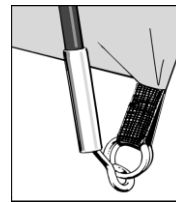

Figure 1.
- Loosen the tension adjusters at the base of the flysheet and insert the steel legs into the curved roof pole sections, and locate the ring and pin into the bottom of the steel legs. (See figure 1) Clip the flysheet to the steel poles on each side.
1. Locate one end of each pole onto the corresponding metal pin. The metal pin inserts into the hollow metal ferrule on the end of each pole. (See Figure 1). Push the pole into a curve from the opposite side, one at a time, and locate all pole ends onto the metal pins.